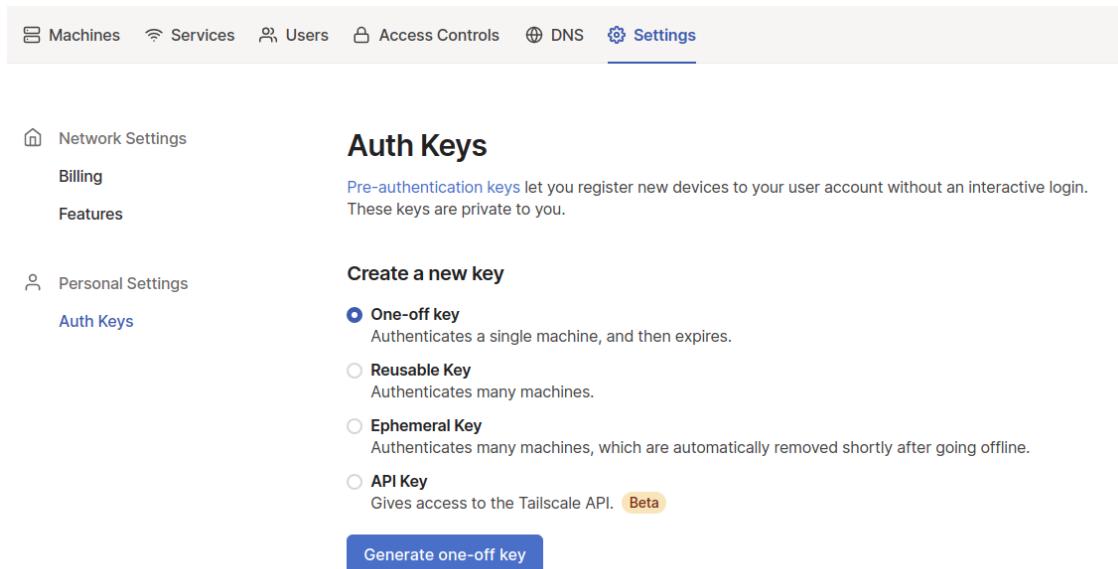

Figure 13: Generating a one-off authentication key at <https://tailscale.com/> to add a new machine to a VPN.
- Open your tailscale admin page at <https://login.tailscale.com/admin>, navigate to the 'Settings' tab and generate a one-off key, as shown in Figure 13